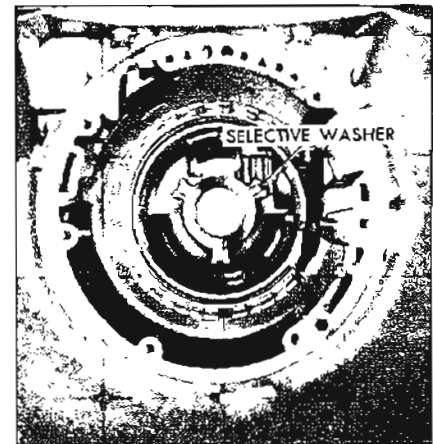

Figure 5-693
7. Install the rear selective washer into slots provided inside rear of transmission case. See Figure 5-693.